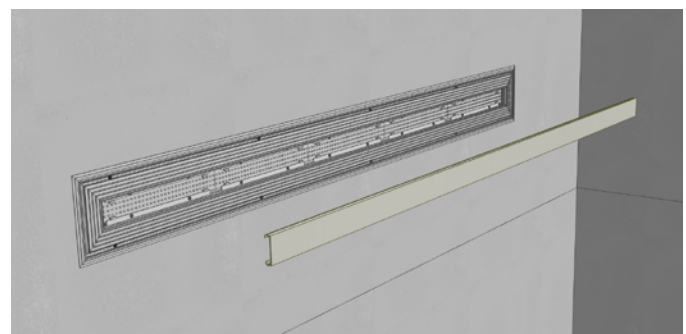

figure 6 - Mounted fixture assembly with lens removed
14. Protect lens with plastic or painters tape and install into fixture. *fig.6*